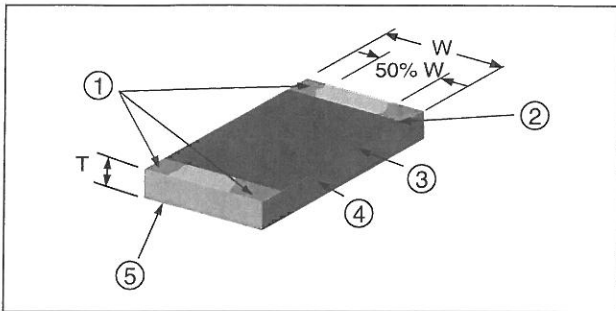

Figure 9-1
- Metallization loss on any termination side (not the end face) of a 5-sided termination component, up to 25% of the component width (W) or the component thickness (T).
- Maximum of 50% of metallization loss of top metallization area (for each terminal end) of a 3-sided termination component, Figures 9-1,2.